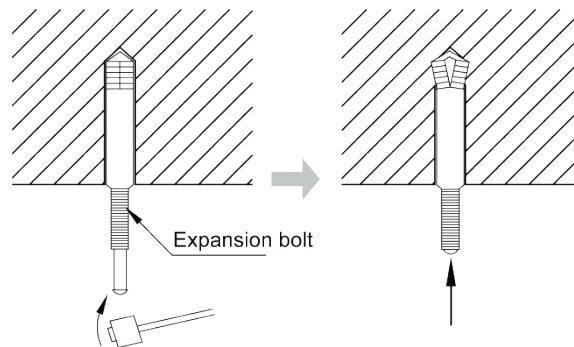

Fig 4
2) Insert the M10 expansion bolt into the hole and then knock the nail into the bolt, as shown in Fig 4.